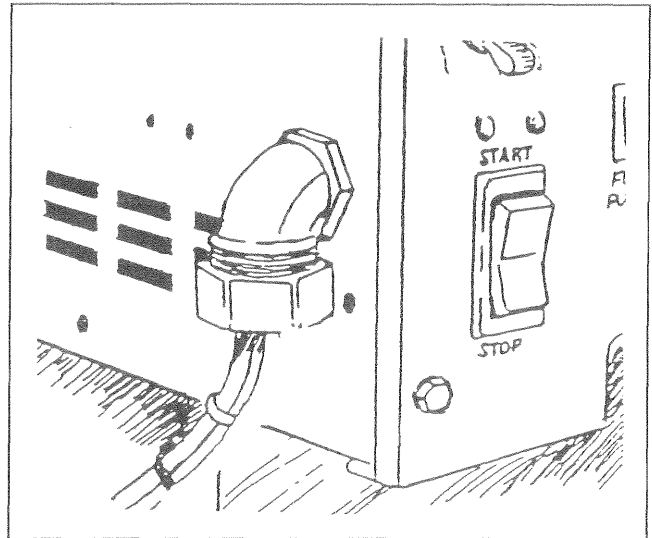

Figure 28 — Generator AC Output Leads
Generator AC output leads T1 (black) and T2 (white) come out of the generator as shown in Figure 28. Lead T1 (black) is "hot." Lead T2 (white) is the "neutral" lead and is internally connected to ground. The green lead (0) connects to ground in the junction box of the recreational vehicle.